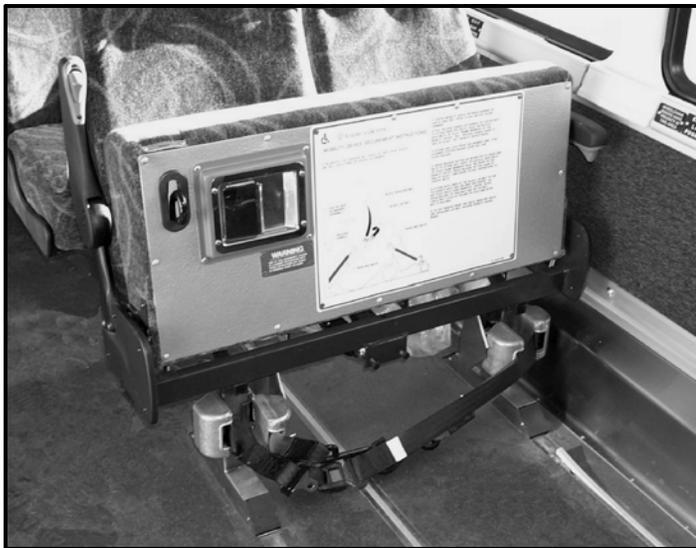

FIGURE 94
Refer to Figures 94 to 98 to identify the adjustable seat components that fold and slide to move the sliding seat, to provide wheelchair parking area.
- Pull the release lever, located underneath the fixed seat, and fold up (Figure 94),